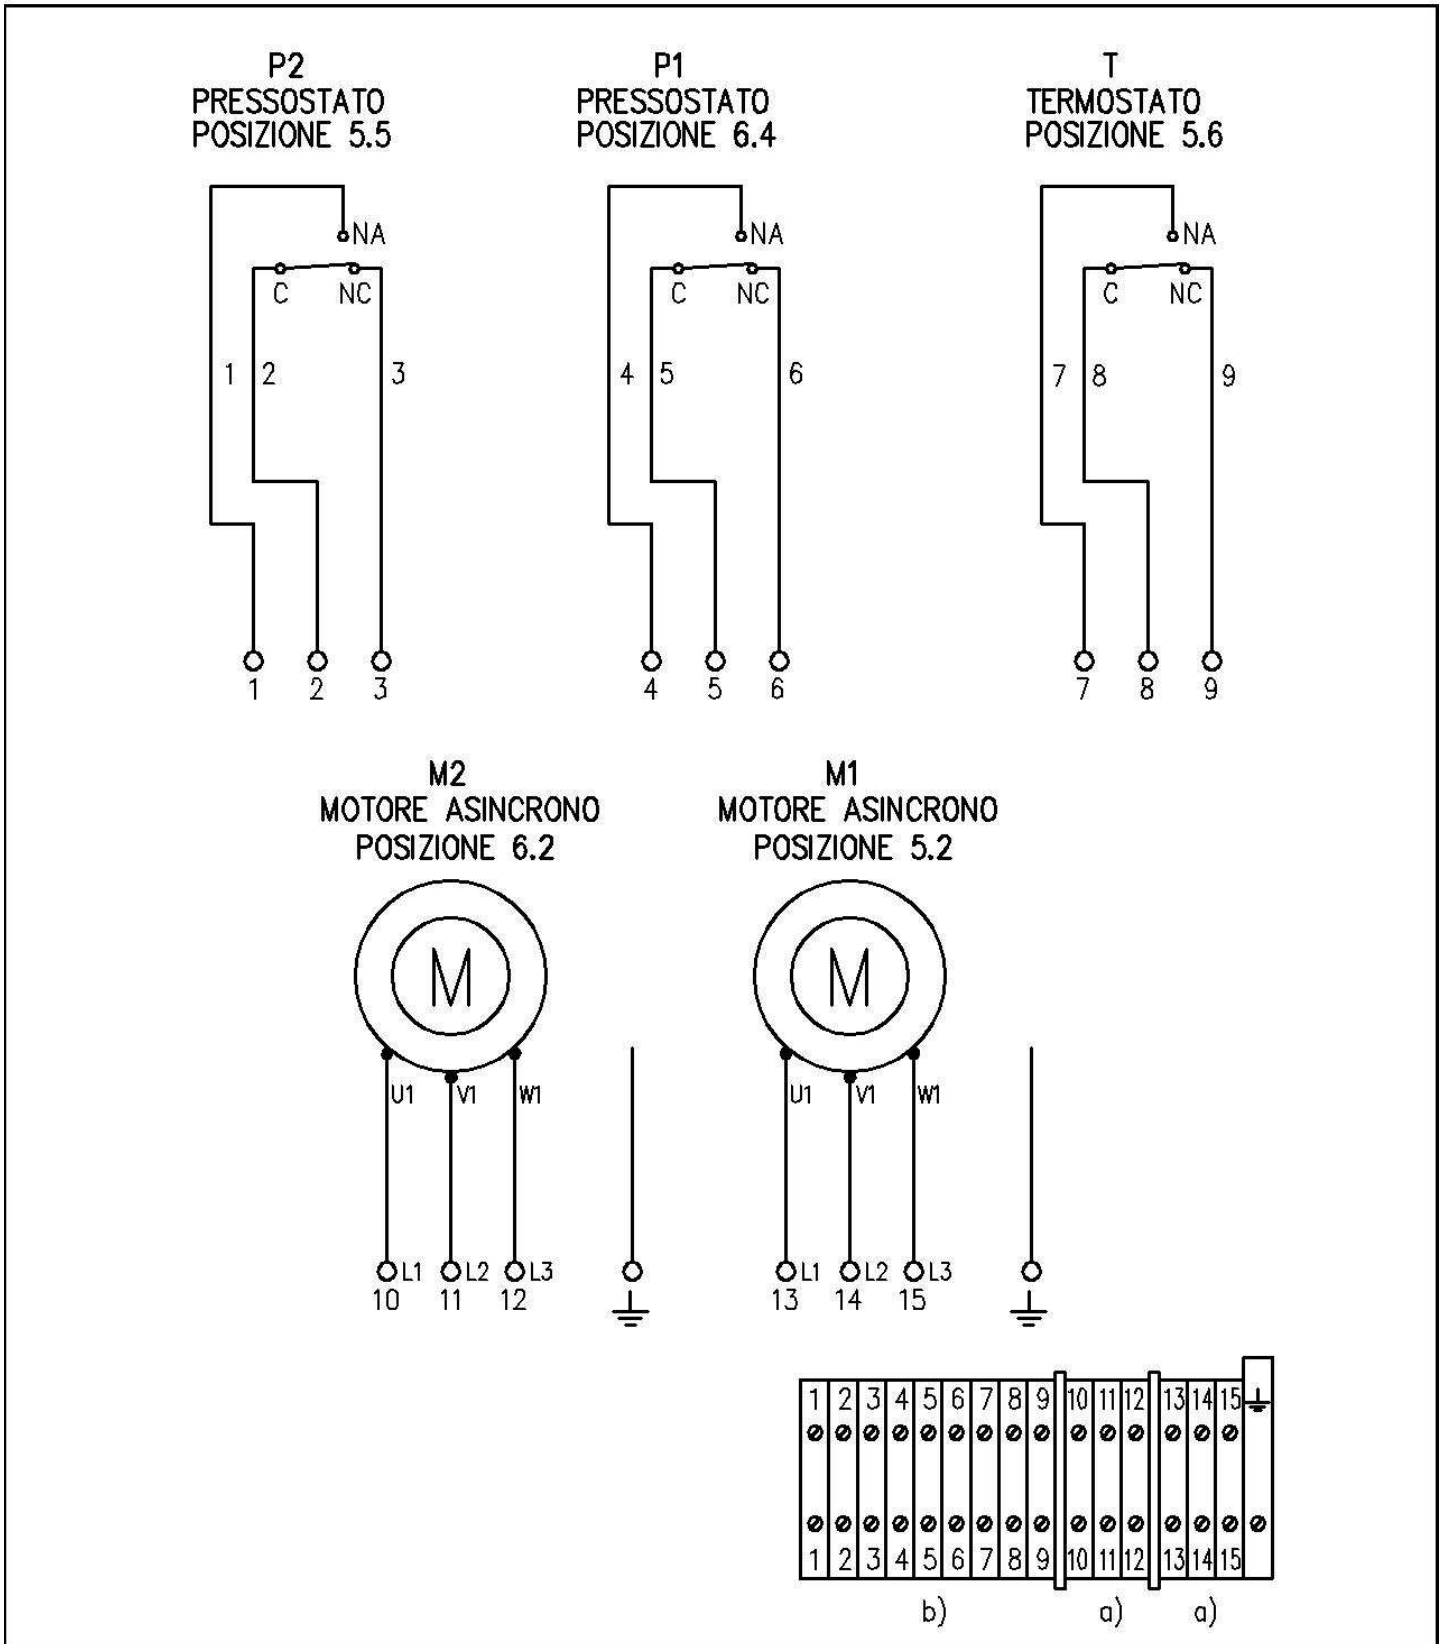

Fig. 5 – Air-air heat exchanger wiring diagram
b.8 Control appliances (see layout in fig. 5)